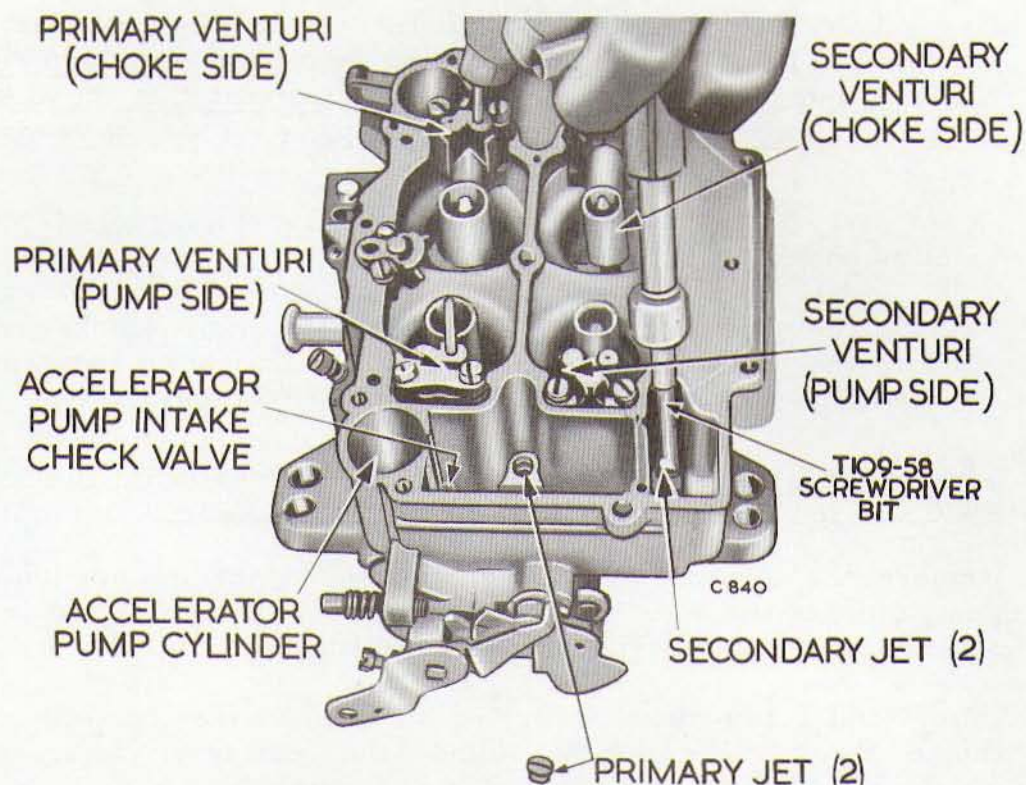

Fig. 11 Removing or Installing Main Metering Jets
- (2) Using Tool T.109-58 remove the main metering jets (primary side), as shown in Fig.11. The primary and secondary main metering jets are not interchangeable. It is very important that these jets are refitted in their respective locations in the mainbody at reassembly.
- (3) Again using Tool 109-58, remove the main metering jets (secondary side) as shown in Fig.11.
- (6) Using Tool T.109-59, screwdriver bit, remove the accelerator pump intake check valve, located inside the fuel bowl, adjacent to the accelerator pump cylinder. Refer to Fig.11.
- (7) Remove the two idle mixture adjusting screws and springs from the throttle body portion of the main casting. The carburettor has now been dismantled into two units, namely, the air horn and the main and throttle body casting. The component parts of each have been dismantled as far as necessary for cleaning and inspection.
- (6) Install the primary and secondary main metering jets using Tool T.109-58. Tighten jets securely.
- (7) Invert the carburettor and install the accelerator pump intake check ball. Install seat and tighten securely, using Tool T.109-59 (Refer to Fig.11.). Fit screw plug and tighten securely.